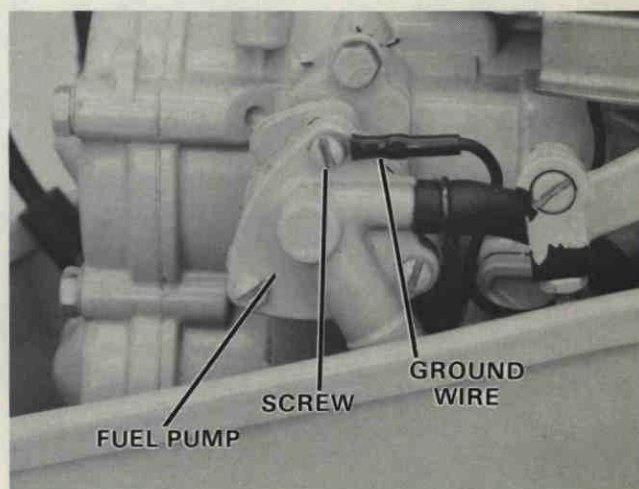

Figure 44. Assembling Throttle Cam and Ground Wire.
2. Secure throttle cam to stator plate with screws. Magneto ground wire is attached to rear starboard screw as shown in Figure 44.